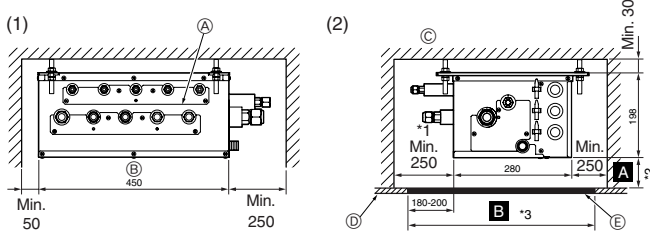
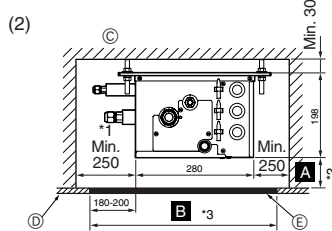
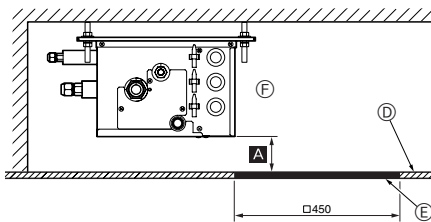

Fig. 4-4
Fig. 4-5
Fig. 4-6
#### (1) Front View (Fig. 4-4)
- ① Branch box
- ② On the side of piping
#### (2) Side View (Fig. 4-5, Fig. 4-6)
- ③ For indoor installations
- ④ Ceiling board
- ⑤ Maintenance hole
- ⑥ PCB side
In the case of "□ 450", prepare a maintenance hole at a PCB side (as it is shown in Fig. 4-6), and "Min. 300 mm" is needed as distance ②.